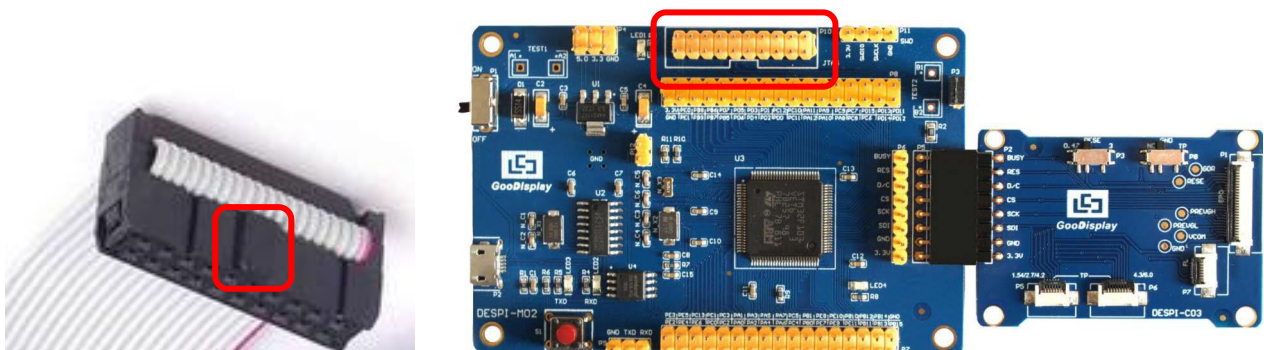

Figure 8 : Connection between JTAG and simulator
- 1) Connect the simulator to DESPI-M02's JTAG interface (align the raised part of the figure 8 simulator interface to the notch direction of the JTAG interface) and connect the computer USB port at the other end.